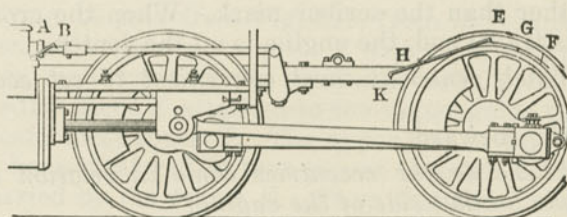

Fig. 271. Tramming a Locomotive.
A. All lost motion having been taken up while the engine is hot, the reverse lever is put in full forward position. The chest covers are removed and the valve placed first with one steam edge, then with the other, in exact line with the outer end-port edges. Commence on the left side. With a short  shaped tram lay out on the valve stem the points *A* and *B*, Fig. 271, corresponding to front and back admission, and also one for the cen-